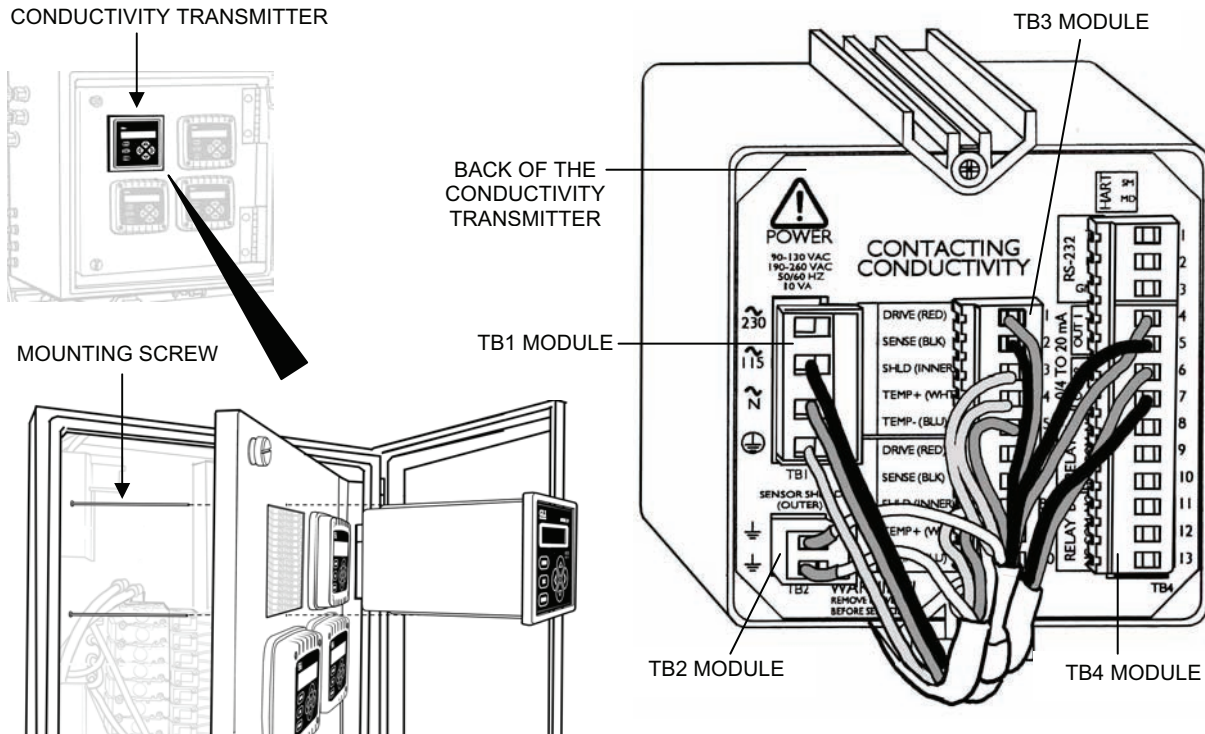

Figure 6. Panel-Mounted Conductivity Transmitter Removal.
1. Remove the conductivity indicating transmitter from the instrument/solenoid panel box as follows (see Figure 6):
2. Install the new conductivity transmitter to the transmitter panel as follows (see Figure 6):